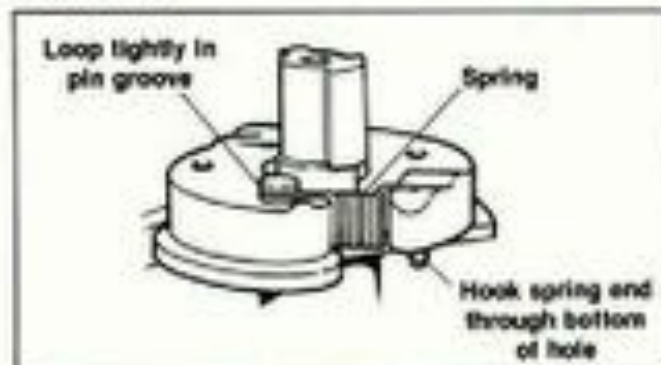

Figure 8-6. Advance Unit Flyweight Spring Assembly
tom of hole, and that upper looped end grips groove in pin tightly. See Figure 8-6.
8. See Figure 8-6. Disconnect sensor plate from ignition module at connector. Connect Ignition Test Adapter Part No. HD-94465-81 between the two halves of the connector. There are three test leads that extend from the adapter, one green, one black and one red. Connect a voltmeter between the red lead and the black lead. With the ignition and engine stop switches on, the voltmeter should read  $5.0 \pm .5$  volts. If not, the computer module is defective and must be replaced.